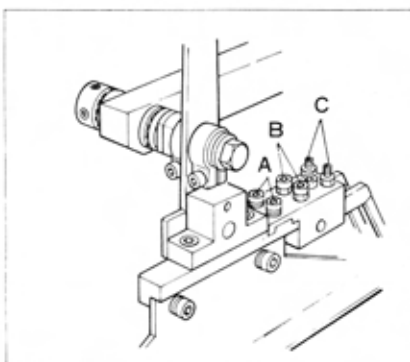

Figure 15
5. Presser Foot Adjustment (Figures 15 and 16)
- The two bracket mounting screws (A) allow for side to side adjustment of both presser feet to the needles.
- The presser foot height is adjusted using the two long allen screws (B) on the mount bracket. The presser foot must be adjusted to rest on the folded welt. This is achieved by adjusting the two short allen screws (C) on the mount bracket.